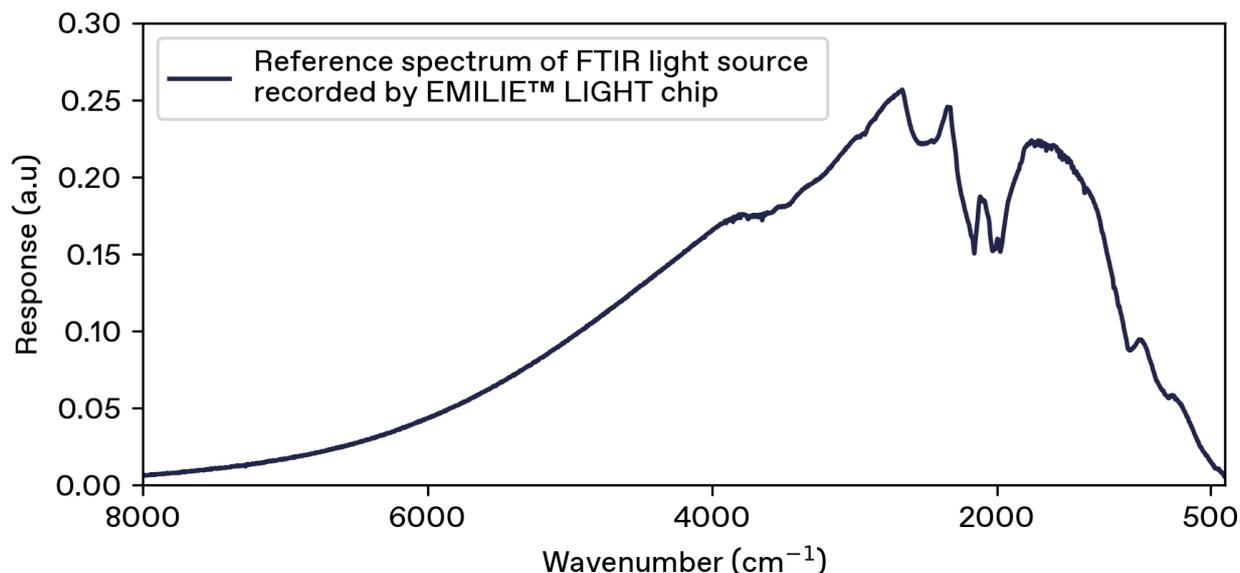

Figure 46: Example of a NEMS-FTIR background spectrum recorded with an EMILIE™ LIGHT chip in a Vertex 70 using a KBr Broadband beamsplitter.
5. Acquire the spectrum by pressing "Start a Step Scan" in OPUS. Figure 46 shows a NEMS-FTIR background spectrum of a Bruker Vertex 70 globar with a KBr Broadband beamsplitter.
The background spectrum is recorded in the absence of analyte using an EMILIE™ LIGHT chip and can be obtained by following the instructions in Section 5.2.7. Figure 46 shows a NEMS-FTIR background spectrum of a Bruker Vertex 70 globar with a KBr Broadband beamsplitter.